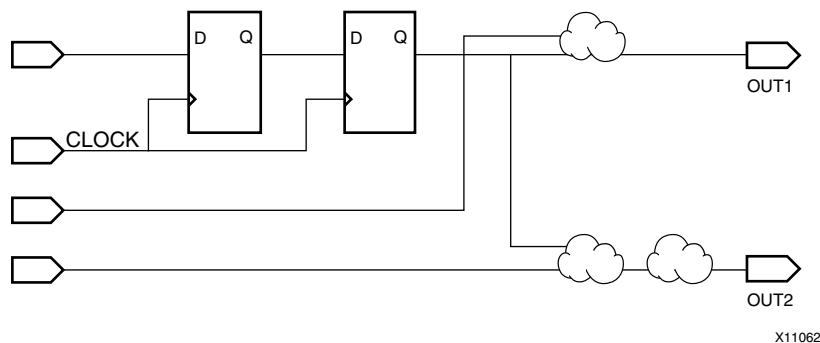

Figure 3-2: Timing Name on the CLOCK Pad or Net Traces Downstream to the Flip-Flops
- Figure 3-2, Timing Name on the CLOCK Pad or Net Traces Downstream to the Flip-Flops